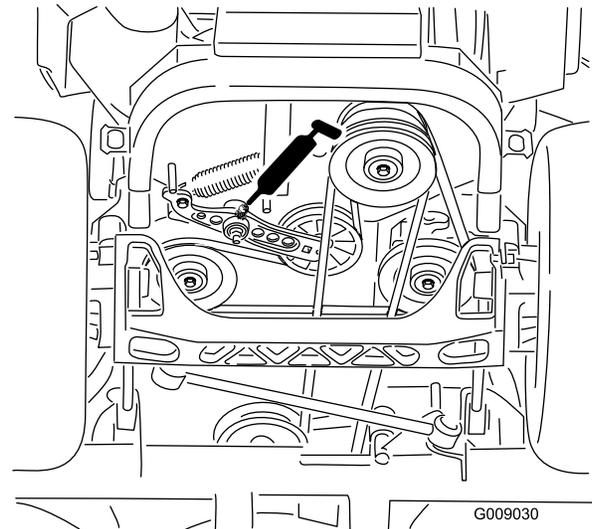

Figure 55
6. Grease the drive-belt idler arms (Figure 55).